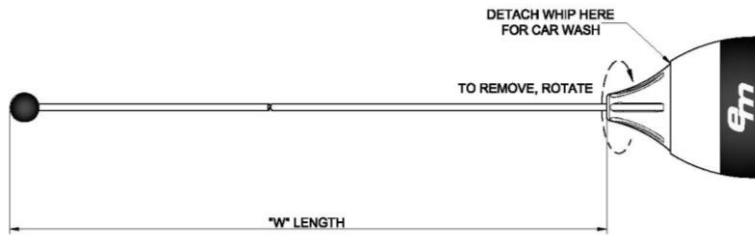

Figure 1
5. Measure the cut length "W" as shown in Figure 1. The length includes ball tip.
Automatic Car Wash Feature - For optimal protection and extended reliability of the antenna and the NMO vehicle mount, remove the whip only from the antenna base (as shown in Figure 1) before entering automatic car wash. Before re-installation, wipe the stud and base dry with a clean cloth. Attach whip to the antenna adapter with firm finger tight grip.